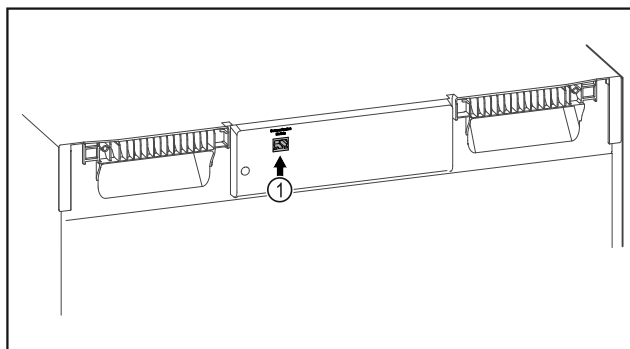

Fig. 95
- ▣ SmartModule Fig. 95 (1) is in use.